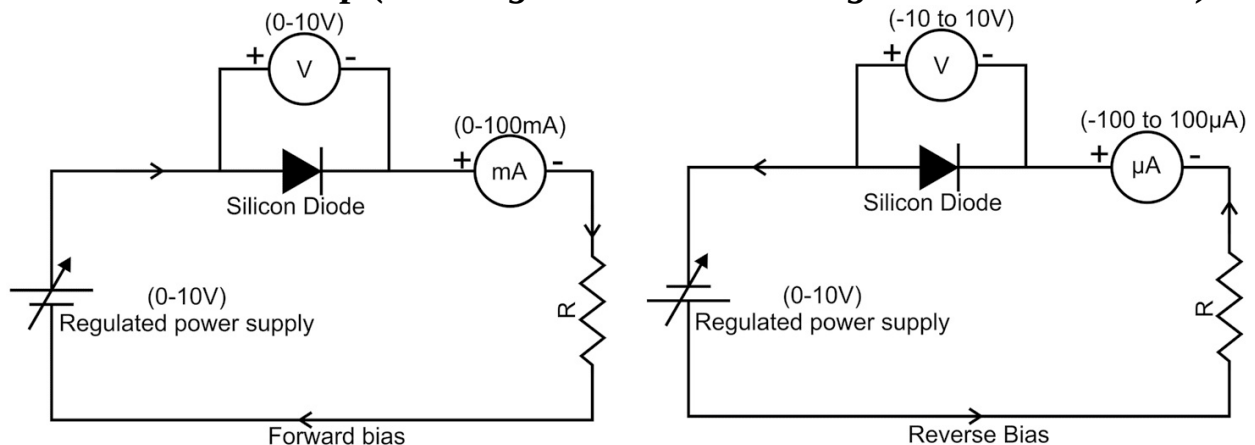

Fig P14.1 Fig P14.2
1. Connect the p-n Junction diode (Si/Ge) in forward bias as shown in Fig. P14.1.